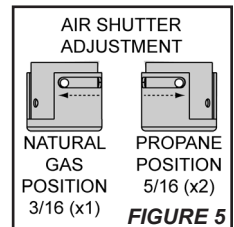

FIGURE 5
8. Before replacing the burner, adjust the air shutter to the proper fuel type. (FIGURE 5)